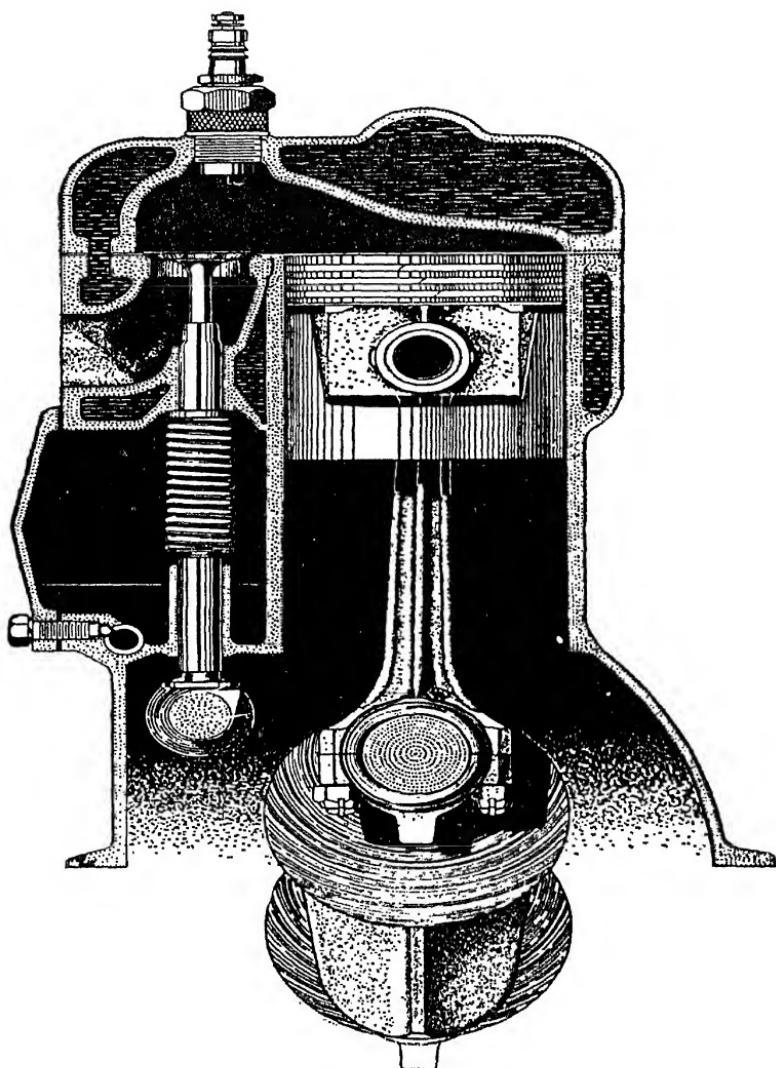

Fig. 1. Section through Ford Model A, L-Head Engine
design, T-head design, and F-head design. These letters are used to designate the form of the cylinder as it would appear if the cylinder was sectioned, as indicated in Fig. 1, this being a cross section of an L-head engine.
**L-Head Engine.** This is the most common practice in engine construction. It is, perhaps, the simplest and at once the cheapest in production. L-head engines are quiet in operation and are long lived. Fig. 1 shows the conventional construction of the L-head or, as the English call it, the side-valve engine. It will be noted from this illustration that the valve rests on the valve lifter, which in turn rests on the cam which is integral with the camshaft. The